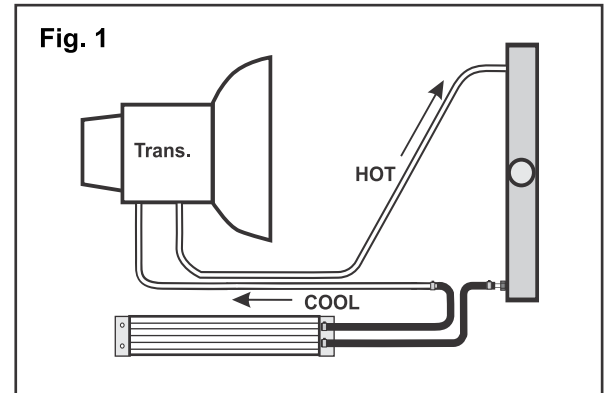

Fig. 2
2. Using a 1/8" Allen Wrench, assemble the two cooler brackets on both sides of the Aluminum Heat Sink Cooler, making sure the 90° bent tab is facing away from the cooler. (See Fig. 2) Leave the Button Head Bolts loose.